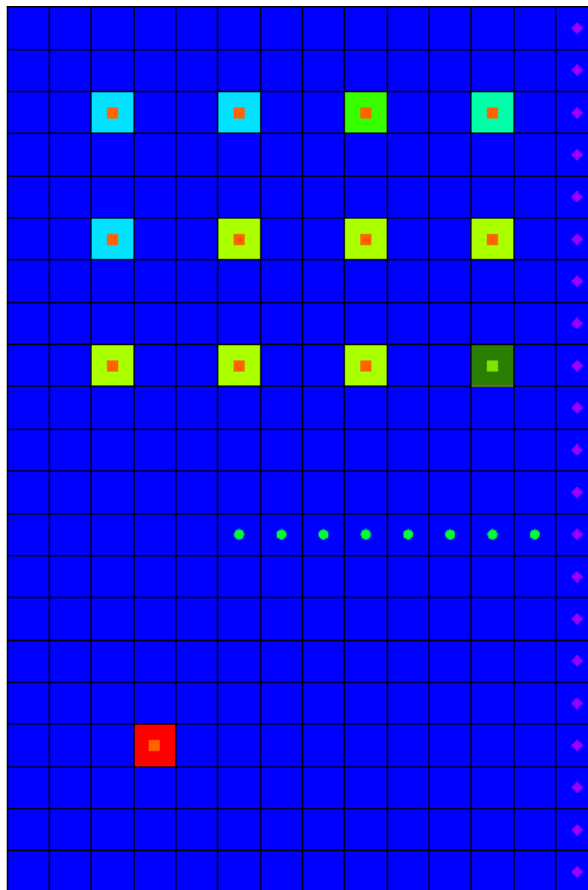

Figure 7 MNW boundary condition cell
5. Select the cell highlighted in Figure 7 (bottom right cell of the group of wells, Cell ID: 124), then right-click and select **Sources/Sinks** to bring up the *MODFLOW Sources/Sinks* dialog.